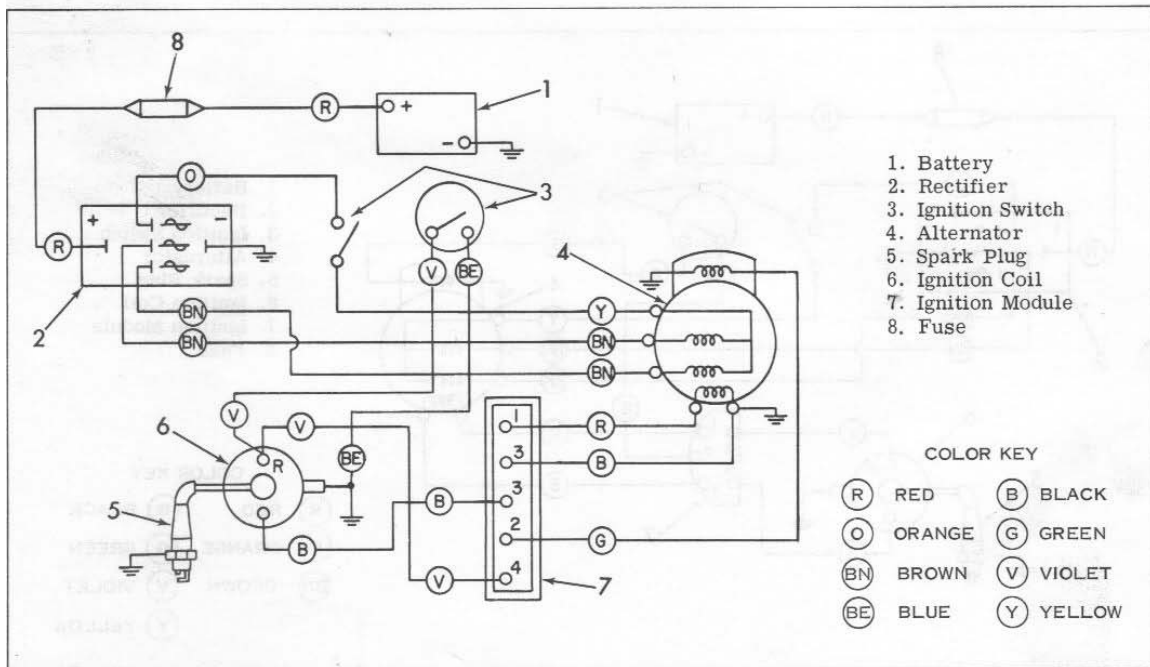

Figure 5.6. Basic Electrical System (Late)
- B. If as in Figure 5.6, disconnect ground wire from ground lug of coil (6) to switch (3) at switch - blue wire (BE) in this case. If spark now occurs at the plug when engine is turned over rapidly, ignition switch is faulty and should be replaced.